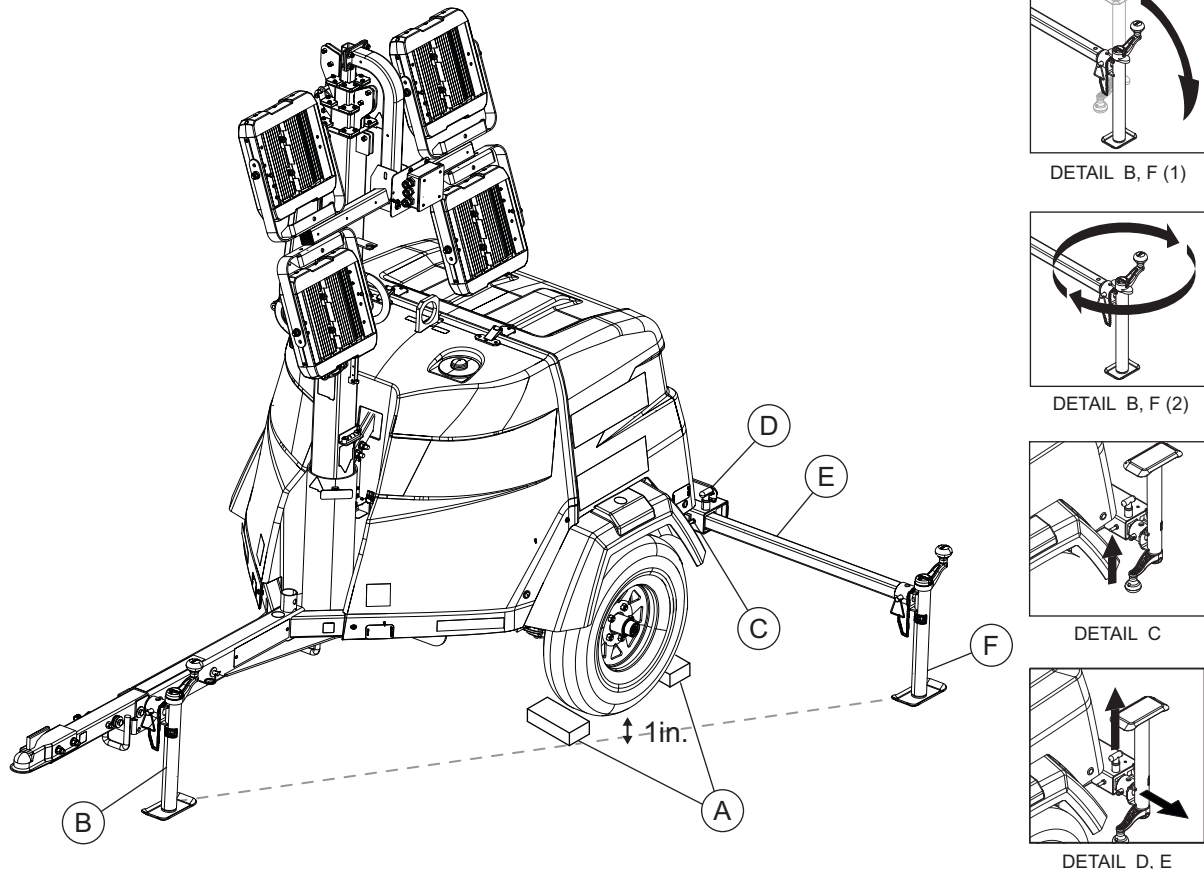

Figure 3-1. Setup Components
2. See Figure 3-1. Place unit on firm, relatively flat ground (less than 5° slope). Block wheels (A).
3. Remove locking pin from tongue jack (B). Rotate jack into operating position, as detailed. Install locking pin. Rotate jack handle until trailer hitch is lifted off towing vehicle.
4. A grounding stud (C) is installed to the trailer frame, near the left outrigger. For grounding requirements, follow local, state, or National Electrical Code (NEC) guidelines.
5. Pull—and hold—spring loaded pin (D) and pull outrigger (E) a few inches, as detailed. Release pin and continue pulling outrigger, until pin snaps into locked position. Repeat step for second outrigger.
6. Remove locking pin from outrigger jack (F). Rotate jack into operating position, as detailed. Install locking pin. Rotate jack handle until jack foot firmly